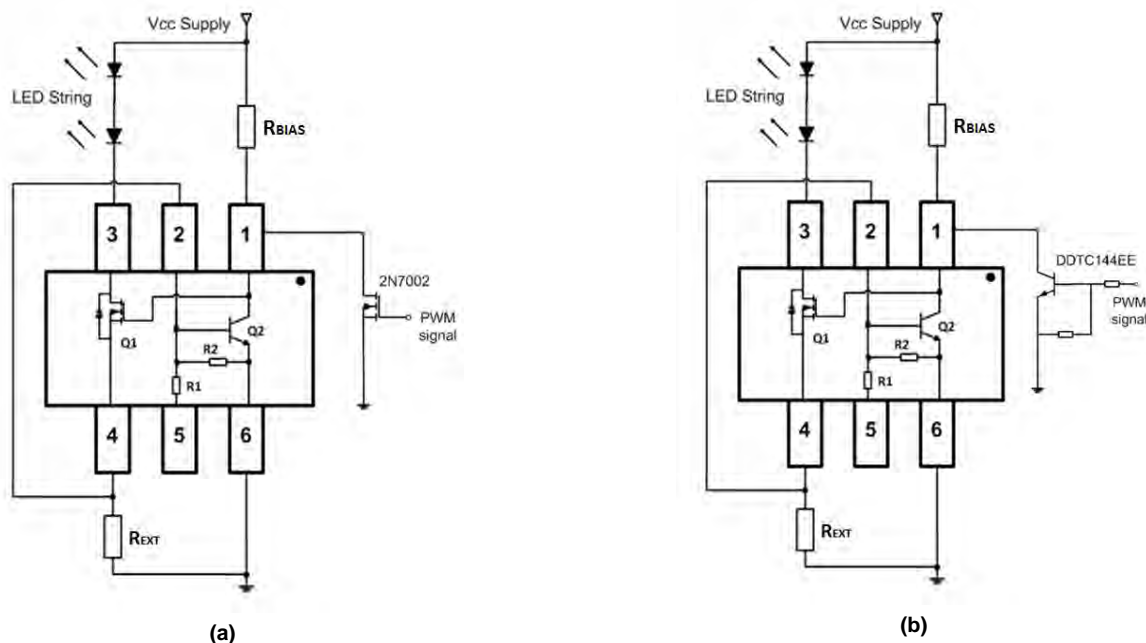

Figure 16 Application Circuits for LED Driver with PWM Dimming Functionality (a) MOSFET driving and (b) Transistor driving
PWM dimming can be achieved by driving the BIAS pin (1). An external open-collector NPN transistor or open-drain N-channel MOSFET can be used to drive the BIAS pin as shown in Figure 16. Dimming is achieved by turning the LEDs ON and OFF for a portion of a single cycle. The PWM signal can be provided by a micro-controller or by analog circuitry.